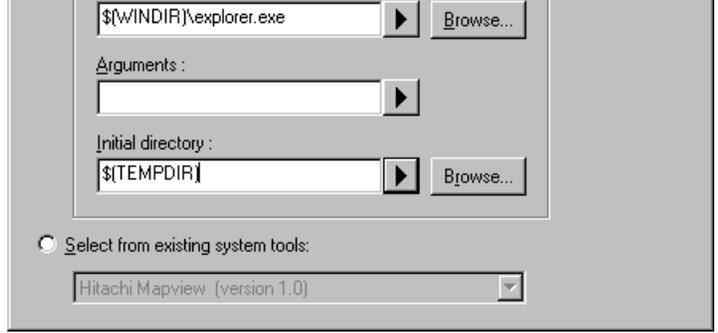

Figure 6.5: Add Tool Dialog
2. Click the “Add...” button (the dialog shown in * MERGEFORMAT figure 6.5 will be invoked. If you would like to add an existing system tool to the menu then select the “Select from existing system tools” radio button, choose the tool from the drop-down list and then click “OK”. Alternatively, if you would like to add a tool of your own then follow the remaining steps.